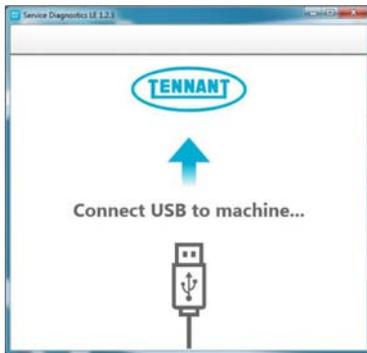

Fig. 6
3. After software start up, the following screen will appear (Figure 6).